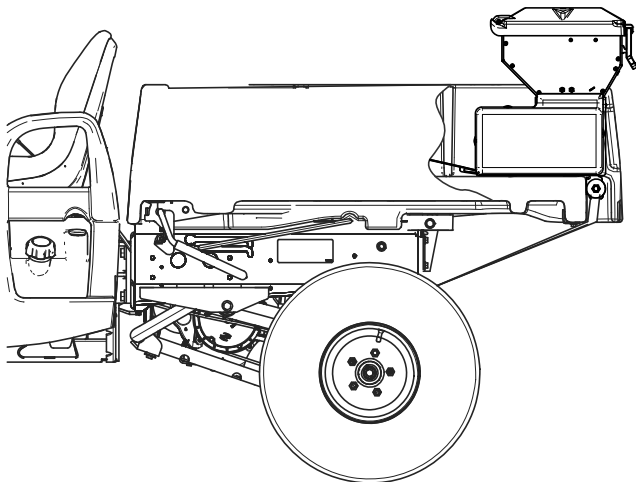

Figure 22
2. Slide the spreader onto the UTV bed until the bed stops contact the bed (Figure 22).